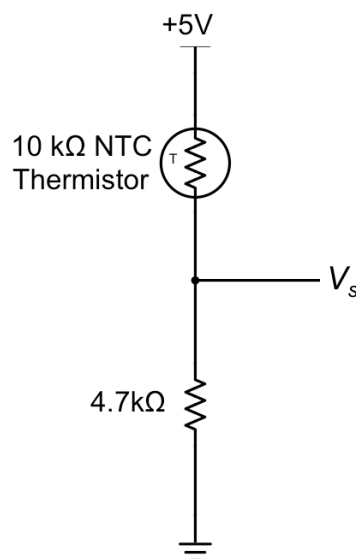

Figure 1 – A thermistor is wired up in a voltage divider circuit. Note that the voltage divider is now driven by 5V instead of 12V.
1. Construct the thermistor voltage divider circuit near the top of the big breadboard (not the portable one). The Arduino does not like voltages above 5V, so you will use the **5V DC power supply on the Arduino for V_{in}** on the voltage divider, as shown in Fig. 1.